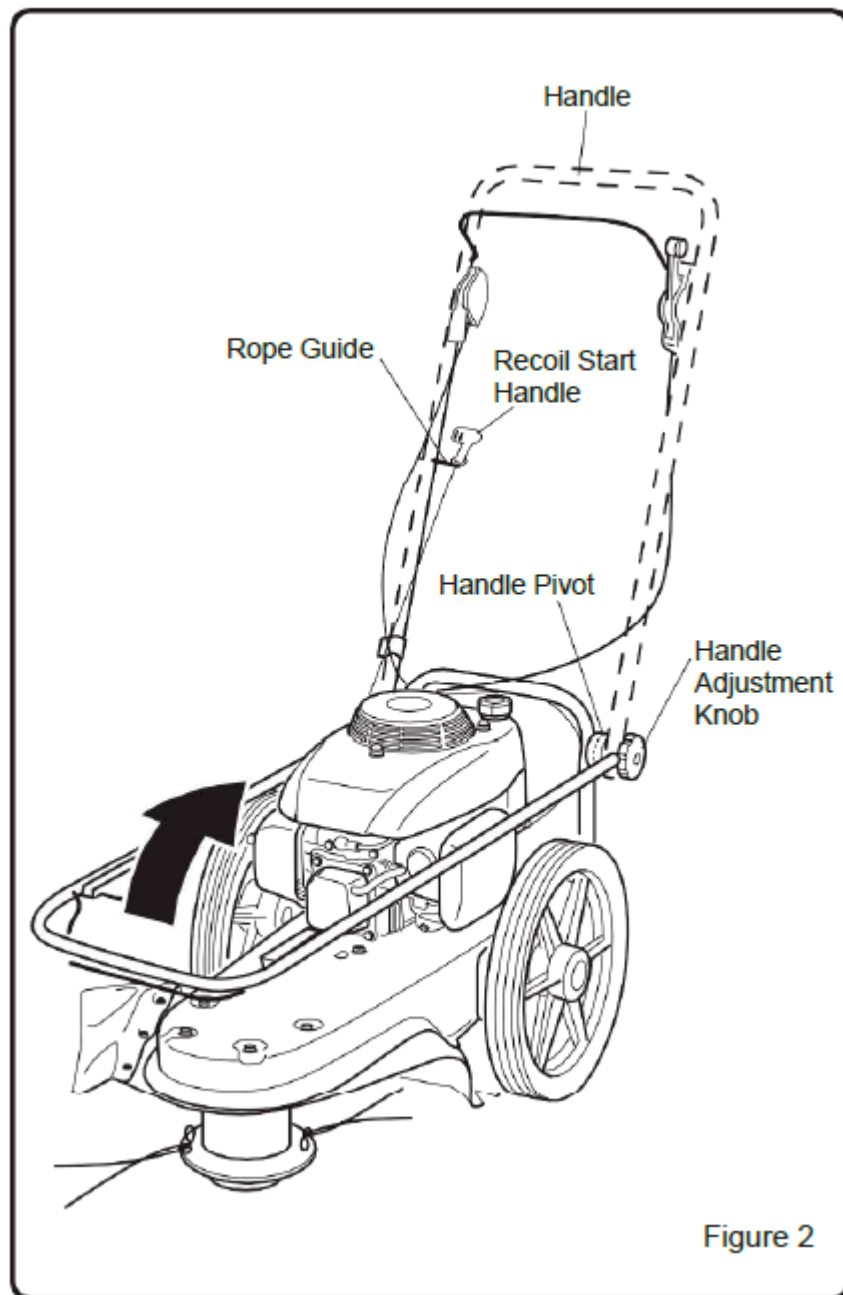

Figure 2
1. Loosen the hand nuts to adjust the handle. See Figure 2.